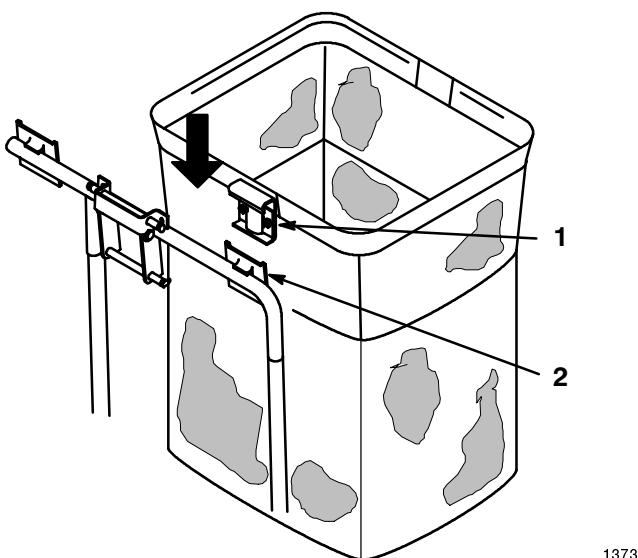

Figure 17
4. Install the bags by sliding the bag frame hooks onto the retaining brackets (Fig. 17).